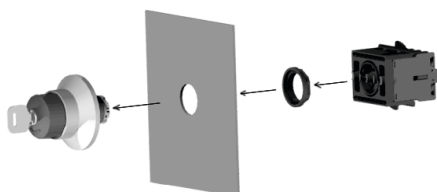

Fig. 6: Installation of the built-in version
- Insert the button through the mounting hole and fasten it with lock nut (max. torque 2.5 Nm). Attach the switch element and turn clockwise by one eighth of a turn. The switch element engages. (Fig. 6)